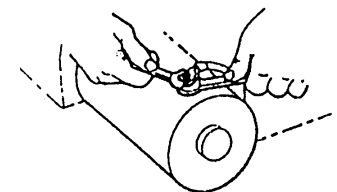

Figure 10
**CAUTION** *When attaching wire to the motor terminals and solenoids (relays), hold the inner nut when tightening the outer nut. Do not allow the motor terminals to rotate causing internal wire breakage. Be especially careful in preventing the solenoid (relay) terminals from rotating. Any rotation can damage the solenoid (see Figure 10).*